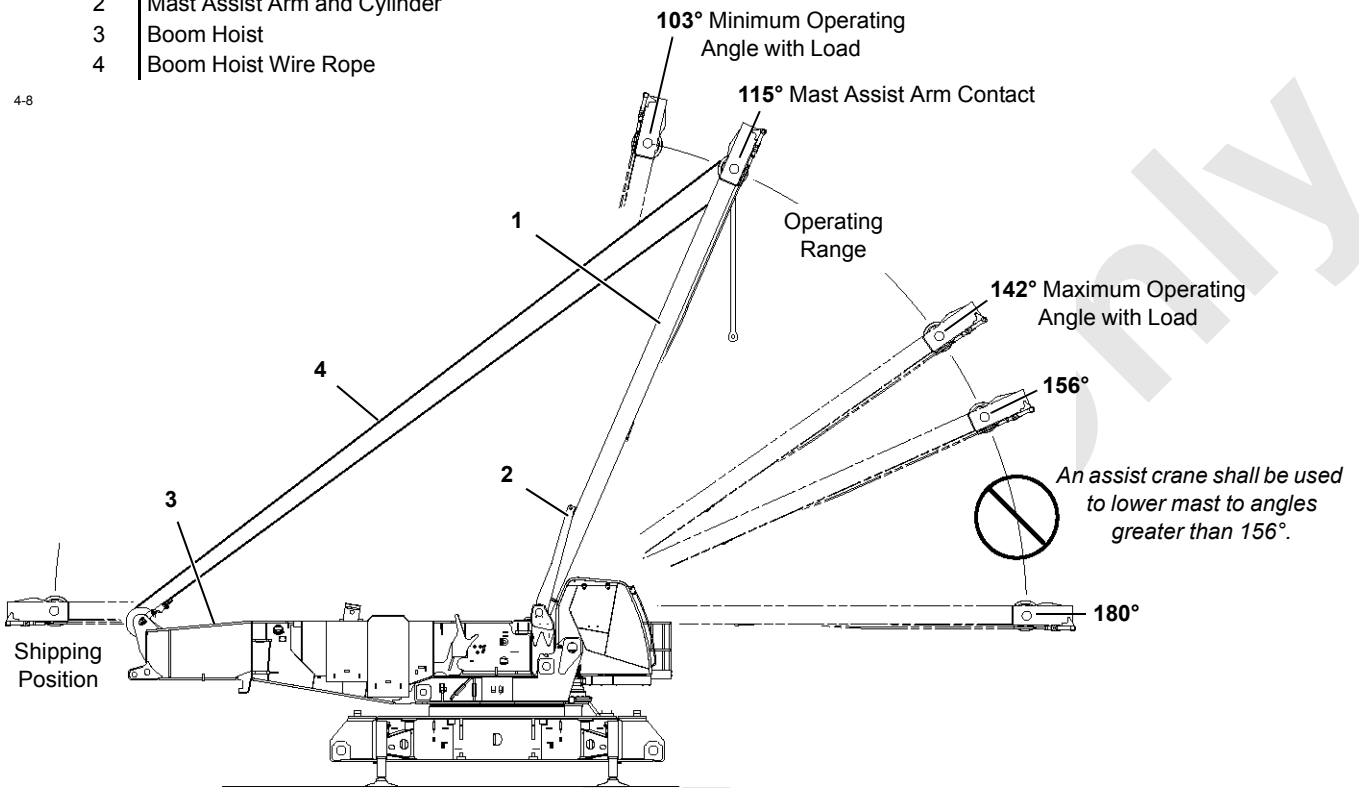

FIGURE 4-8
See Figure 4-8 for the following procedure.
10. Once the mast is at or above 156°, support the mast using the boom hoist wire rope and disconnect the handling pendants (2) from the assist crane block.
13. Position the mast in the operating range (see Figure 4-8).